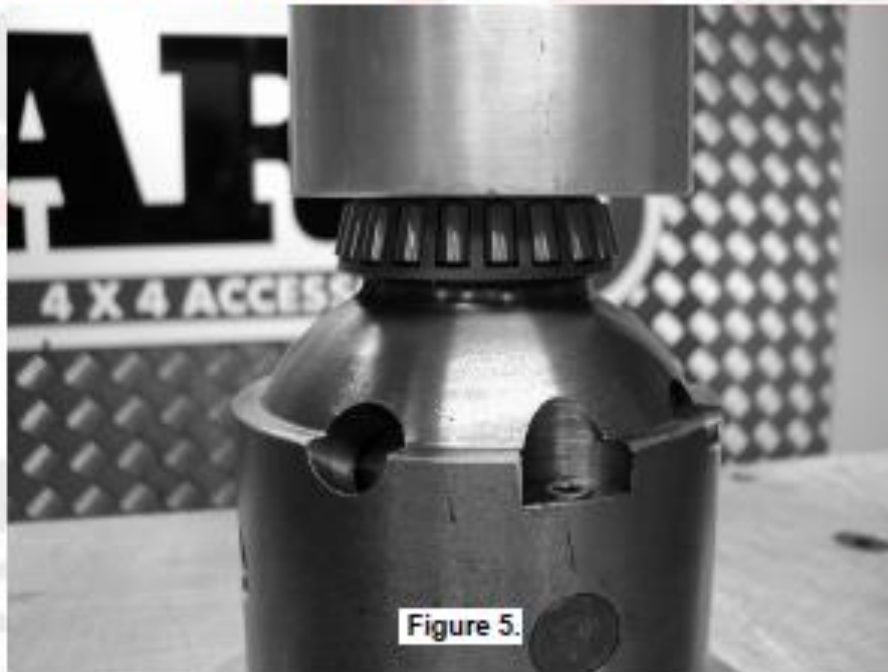

Figure 5.
- ☐ Using a bearing press or arbor press, press one of the bearing cones (supplied with the *Air Locker* kit) onto one bearing journal of the *Air Locker* (refer to Figure 5.) until the bearing seats firmly against the bearing journal shoulder.